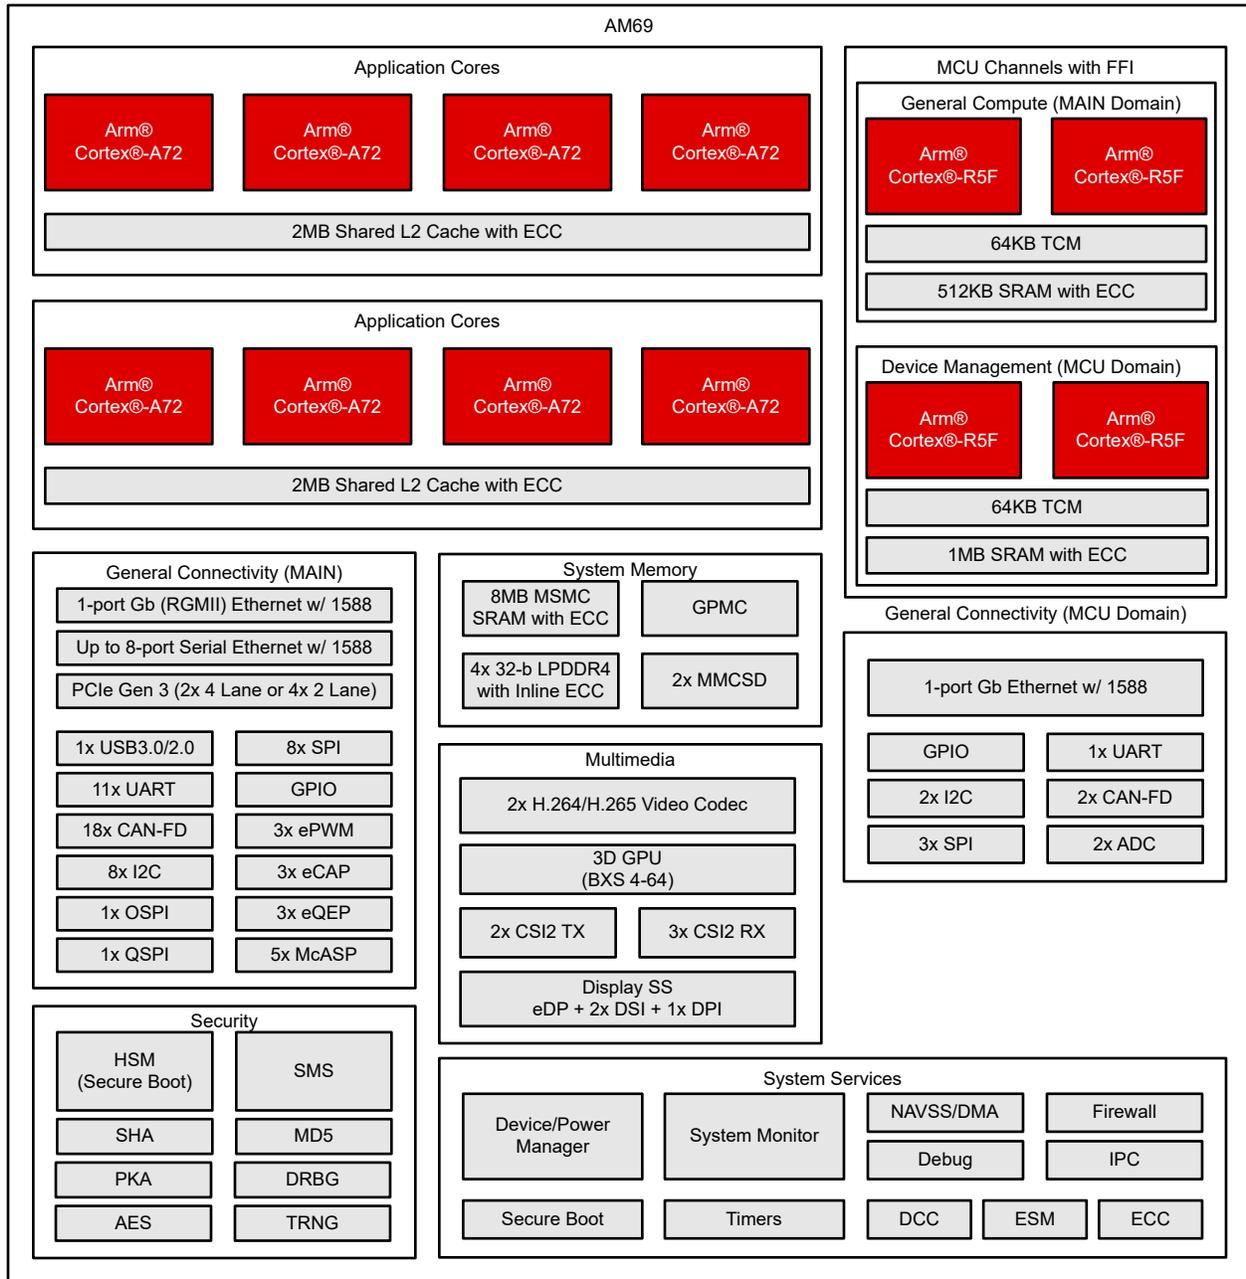

Figure 3-1. AM69 Block Diagram with Subsystems
The AM69 processor is the highest performance device among the AM6x scalable embedded processor family. Along with the octal-core Arm® Cortex® A72 microprocessor, the AM69 provides the most significant levels of processing power, image and video processing, and graphics capability. Compared with the AM62 (2) and the AM68, which are excellent choices for the applications with 1-4 A53 cores and 2 A72 cores, respectively, the AM69 enables the capability of up to 8 A72 cores to take your application to the next level of ARM computing with 100k DMIPS. As shown in Figure 3-1, the AM69 processor features the following multiple sub-systems based on the heterogeneous architecture: